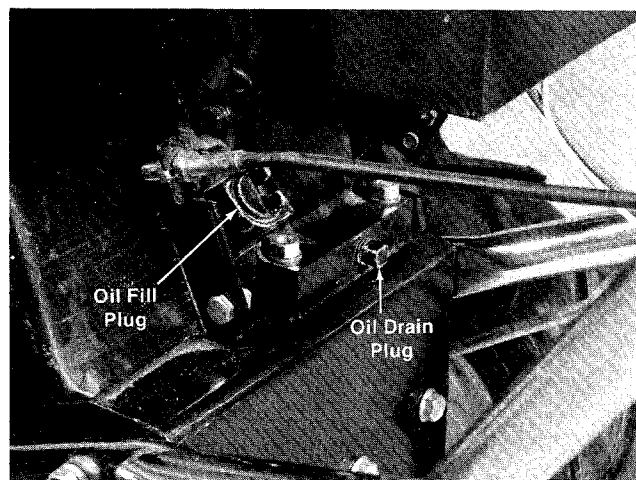

FIGURE 28.
1. Remove oil fill cap. Add oil until reaching point of overflowing. See figure 28.